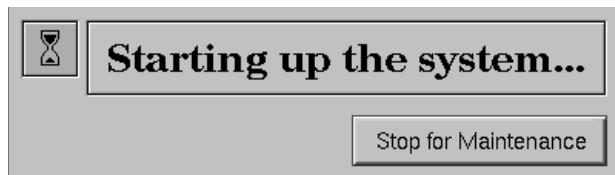

Figure 8-11 System Startup Notifier
2. When you see the System Startup *notifier* (Figure 8-11), click *Stop for Maintenance* or press **Esc**.